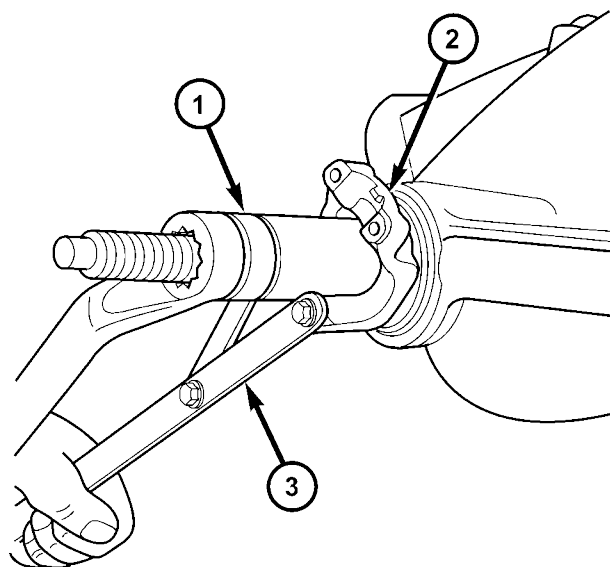

Fig. 39 PINION YOKE INSTALLER
(2) Install yoke on pinion gear with Installer W-162-D, Cup 8109 and Holder 6958 (Fig. 39).